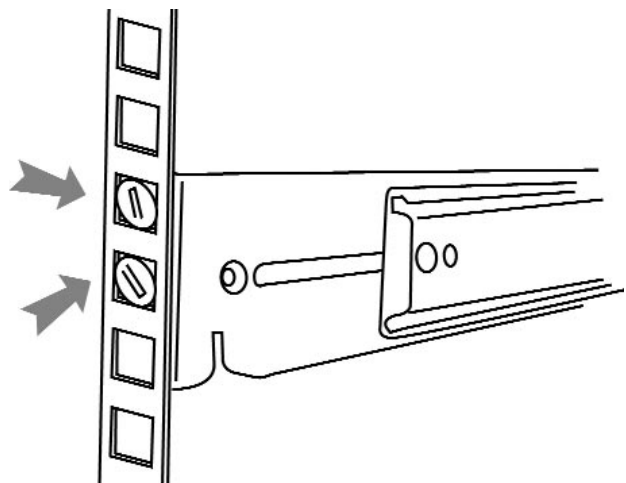

Figure 50 Attach Outer Rail and Slide Chassis in
Step 6. Slide chassis into outer rail, carefully making sure the chassis is level with the slide as in FIGURE 50 (it's easier if the drives and power supplies are removed).